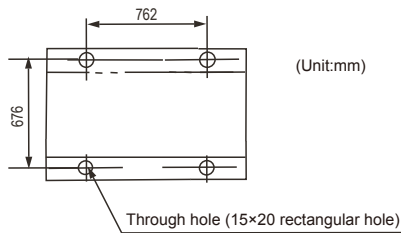

Fig. 4-5
- The distance of the foundation bolt is shown in Fig. 4-5.